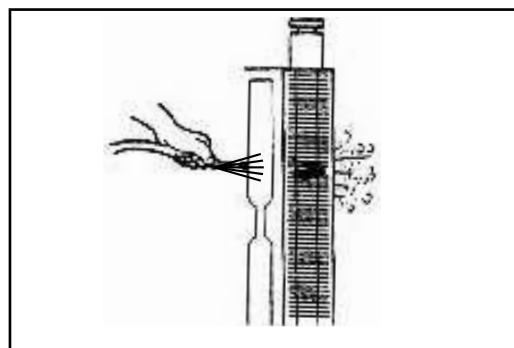

Fig. 5.6c
5.6.3 Radiator Fins Cleaning (Fig. 5.6c)